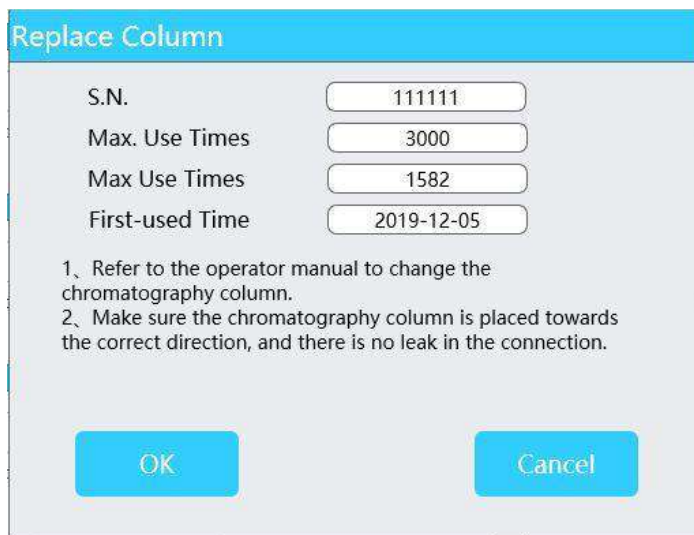

Figure 9-6
8. Click "Main.">" Column">"Replace" on the maintenance interface (Figure 9-6) , enter the serial number, the max use times, and set the number of used times to 0, finally click "Yes", the software will automatically generate the first-used date.